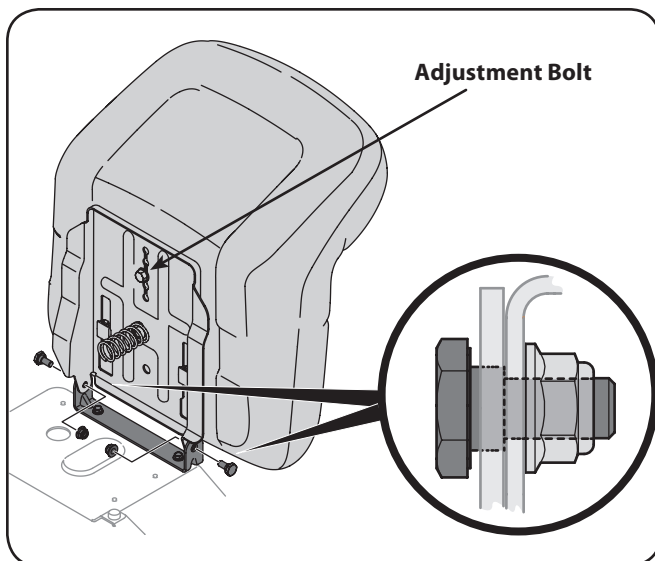

Figure 3-7
6. Install the two shoulder bolts and lock nuts removed from the seat mounting bracket in Step 1. See Figure 3-7.
7. To adjust the position of the seat, loosen the adjustment bolt on the bottom of the seat. Slide the seat forward or backward as desired. Retighten the adjustment bolt. Refer to Figure 3-7.